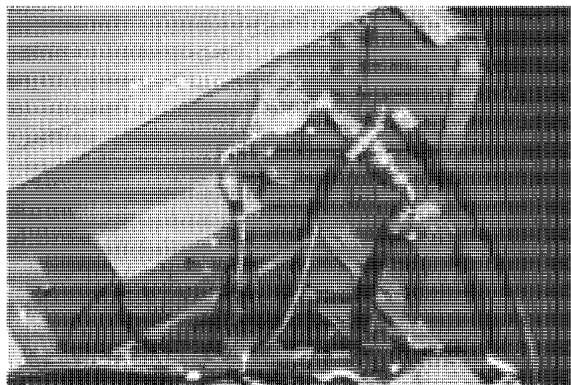

FIGURE 4-46
See Figure 4-46.
12. Unscrew the canister (5, Figure 4-46) and remove the O-ring (3) and filter cartridge (4).